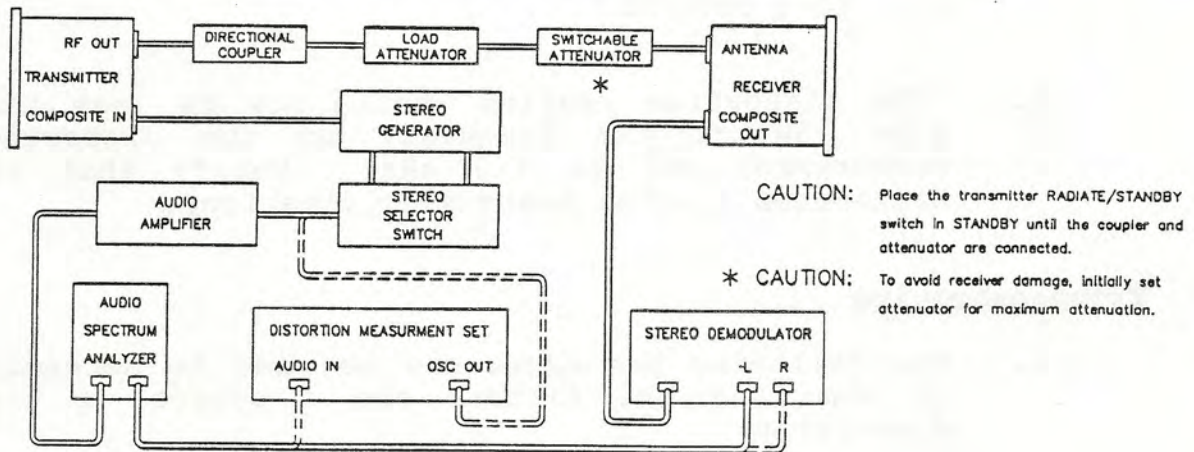

Figure 5-9
1. Connect the equipment as shown in Figure 5-9. This test should be run flat; i.e., the stereo generator pre-emphasis and the stereo demodulator de-emphasis should be switched out. If this cannot be accomplished, the system modulation reference level should be reduced to -20 dB at 400 Hz. Adjust the controls on the audio spectrum analyzer as follows: